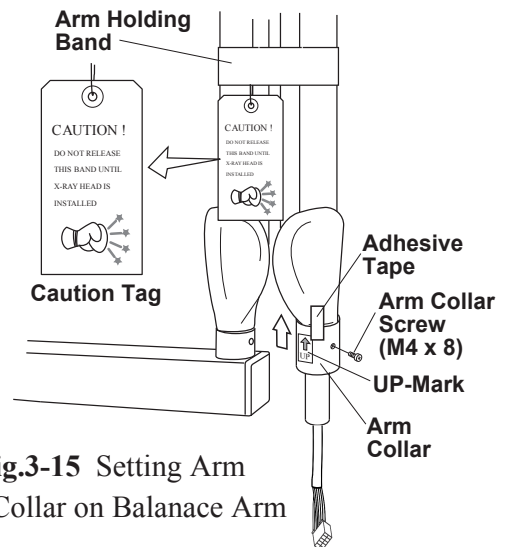

Fig.3-15 Setting Arm Collar on Balance Arm
- Remove the arm collar screw (M4 x 8mm) from the arm collar. Slide the arm collar upward and temporarily hold it in position with adhesive tape. (Fig.3-15)